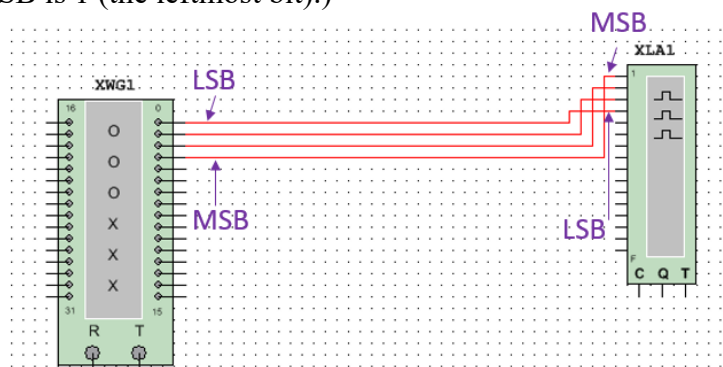

Figure 6. Wiring 1.
- Connect the 4 channels of output from the word generator to the 4 inputs of the logic analyzer. To make it easy to identify the signals, in the word generator, it is suggested to map the Least Significant Bit (LSB), i.e., the pin marked with 0, to the 4th pin in the logic analyzer, and the Most Significant Bit (MSB) in the word generator to pin 1 in the logic analyzer. Figure 6 shows the connection. (FYI: For example, in the binary number 1010, the LSB is 0 (the rightmost bit), the MSB is 1 (the leftmost bit).)